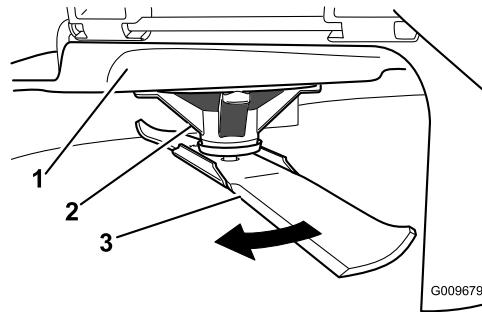

Figure 45
2. While wearing thickly-padded gloves, or other adequate hand protection, slowly rotate the blade to be measured into a position that allows effective measurement of the distance between the cutting edge and the level surface the machine is on (Figure 45).